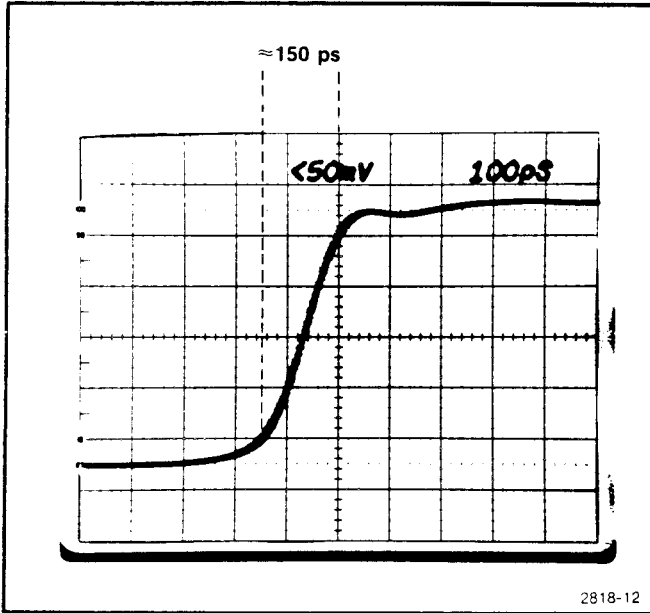

Fig. 4-2. Fast edge pulse risetime.
e. Rotate the 7T11 TIME POSITION control to position pulse as indicated in Fig. 4-2.
i. Change the 7T11 TIME/DIV control to 5 ns and repeat parts a through e (the pulse in Fig. 4-2 will be inverted).